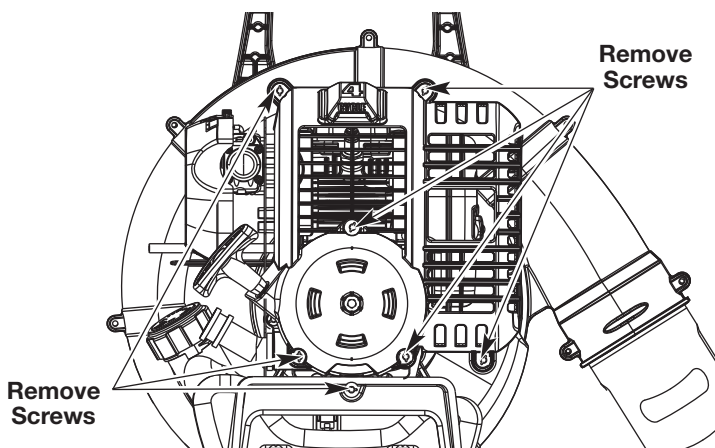

Fig. 27
1. Remove the seven (7) screws on the back of the engine cover with a Flat-head or T-25 Torx® screwdriver (Fig. 27).
4. Remove the engine cover (Fig. 27).
1. Stop the engine and allow it to cool. Remove the seven (7) screws on the back of the engine cover with a Flat-head or T-25 Torx® screwdriver (Fig. 27).